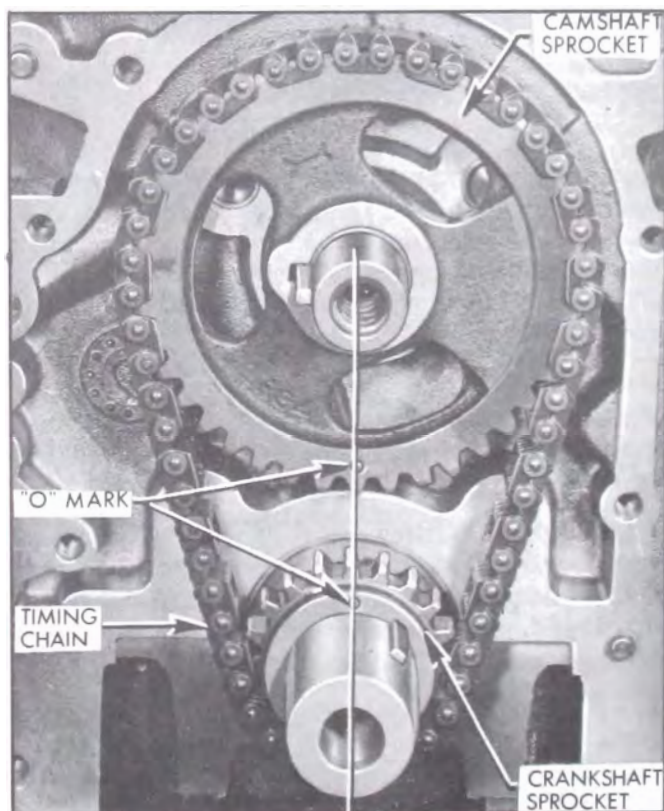

Figure 2-45—Timing Chain and Sprockets Properly Installed
1. With timing chain cover removed (sub-par. a above) temporarily install harmonic balancer bolt and washer in end of crankshaft. Turn crankshaft so sprockets are positioned as shown in Figure 2-45. Doing so will make
2. Turn camshaft so with sprocket temporarily installed, "O" mark is straight down. See Figure 2-45. Remove sprocket.
3. Assemble timing chain on sprockets and slide the sprocket and chain assembly on the shafts with the "O" marks in their closest together position and in line with the sprocket hubs. See Figure 2-45.